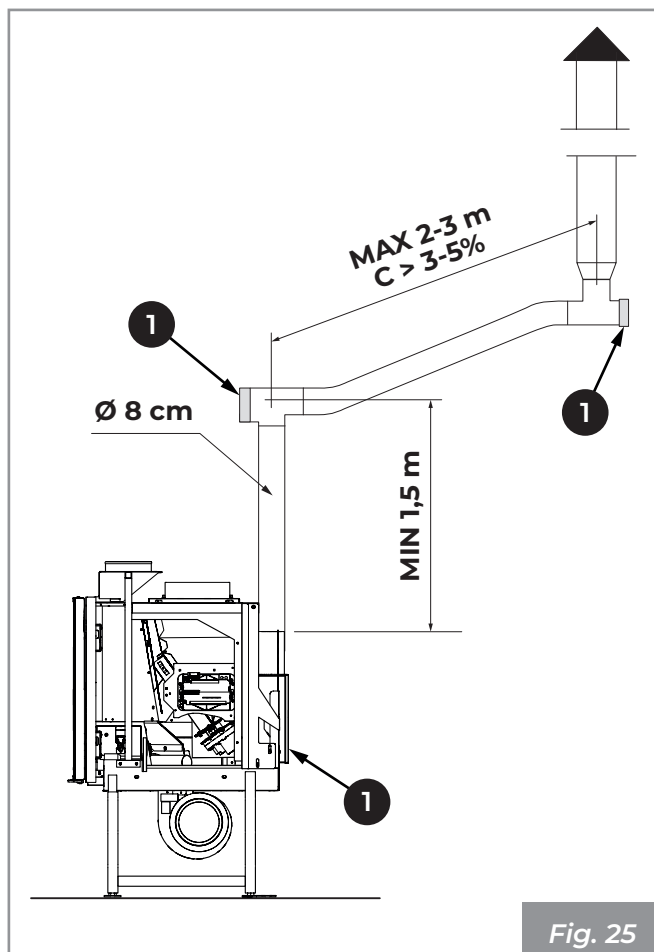

Fig. 25
It is advisable to make a maximum of 3 direction changes, in addition to that resulting from the rear connection of the appliance to the chimney, using 45 - 90 ° bends or Tee fittings (**Fig. 25**).
Always use a T-pipe fitting with an inspection cap (1) at each horizontal and vertical change of the flue gas route (**Fig. 25**).
The horizontal sections must have a maximum length of 2-3 m with an upward slope of 3-5% (**Fig. 25**).